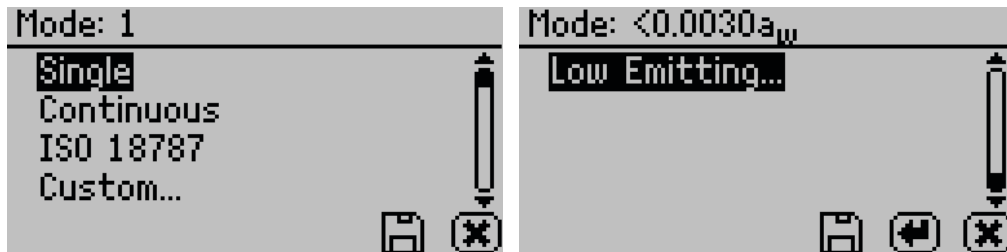

Figure 40 Custom mode options
- **Mode.** Select to choose between Single, Continuous, ISO 18787, Custom, or Low-Emitting mode (Figure 40). The current mode settings appear at the top of the screen with the number of tests appearing first, followed by the stability value (Δa_w).